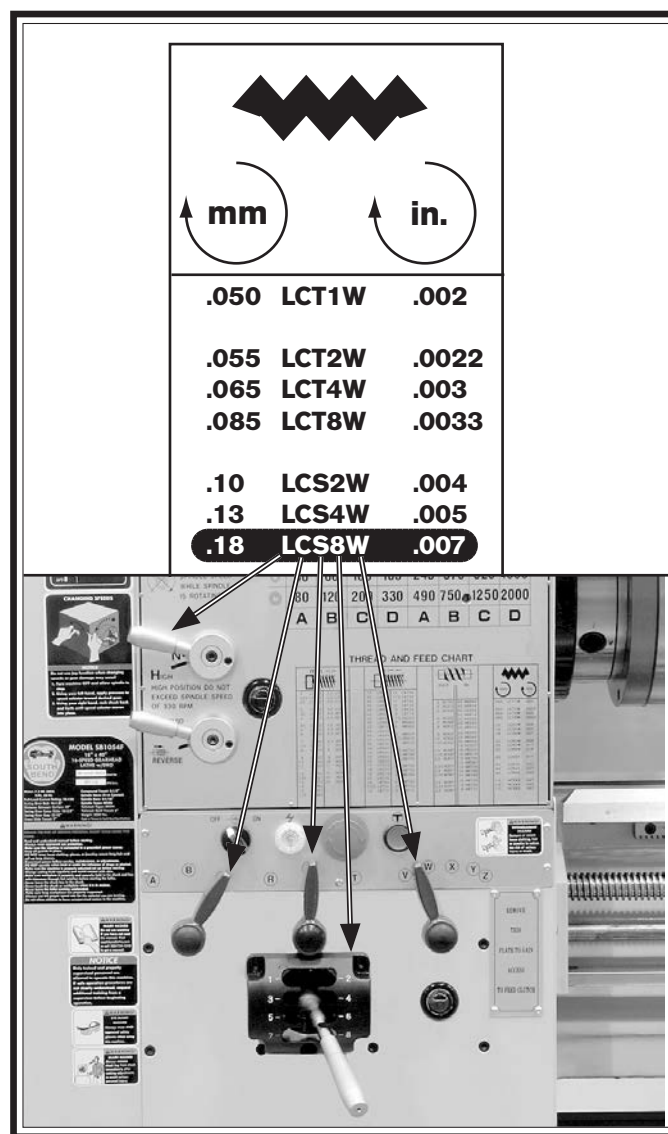

Figure 82. Relationships between feed rate chart and headstock feed controls.
2. Locate the line in the feed rate chart that lists the setting for 0.18mm of feed per revolution of the spindle, as illustrated in **Figure 82**.